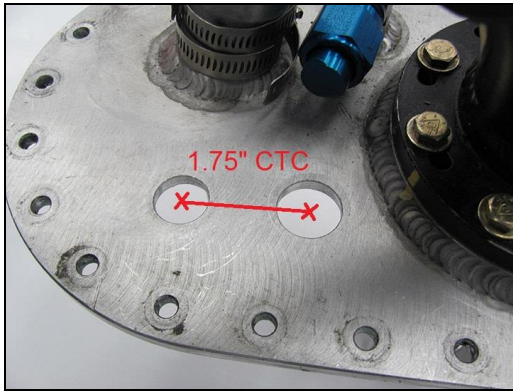

Figure 8
8. Place fill plate on cell and measure where the feed and return hose should be placed. Drill a 57/64" hole for an AT983210ERL feed hose bulkhead and a 49/64" hole for an AT983208ERL return hose bulkhead (bulkheads included in hose assembly), or similar (Figure 8 & 9). Make sure there is at least 1.75" center to center on the holes drilled.